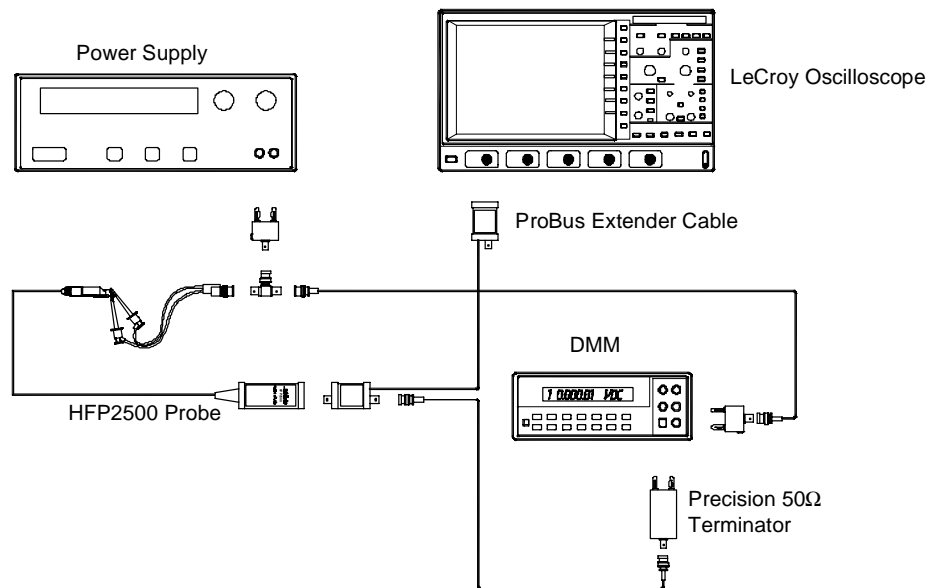

Figure 8-3. Offset Range Adjustment setup.
5. Attach a BNC cable to the unused female port of the BNC tee and a dual banana plug adapter to the other end of the BNC cable and plug this into the DMM. Make sure the side of the banana plug corresponding to the BNC shield (marked 'GROUND') is connected to the **LO** or **COMMON** input of the DMM. Refer to figure 8-3 for setup information.